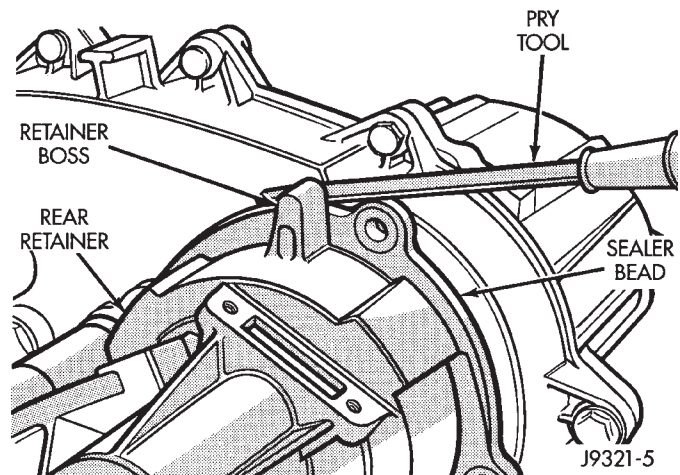

Fig. 27 Loosening Rear Retainer
(6) Loosen rear retainer with pry tool to break sealer bead. Pry only against retainer boss as shown (Fig. 27).